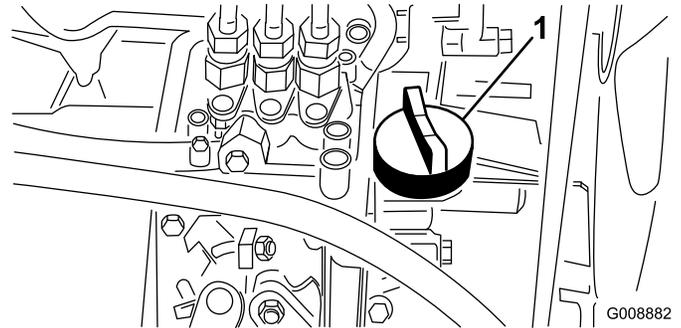

Figure 20
4. If the oil level is low, remove the oil fill cap (Figure 20) and gradually add small quantities of oil, checking the level frequently, until the level reaches the Full mark on the dipstick.